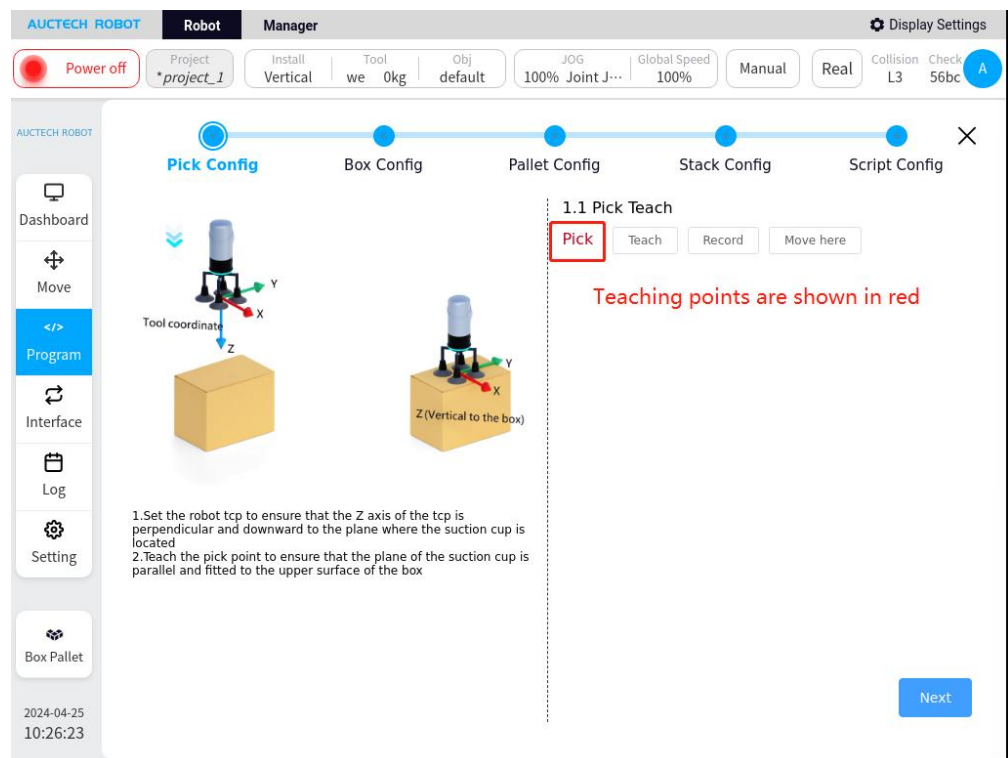

Figure 16
1、Enter the loading point configuration interface, as shown in Figure 16.